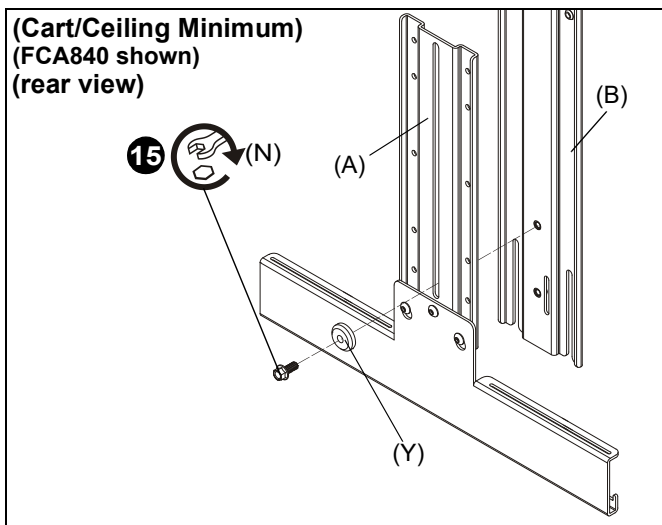

Figure 12
15. (For **minimum extension**) Use 1/4-20 x 5/8" hex head flange bolt (N) and center washer (Y) to secure upright bracket (A) to main bracket (B). (See Figure 12)